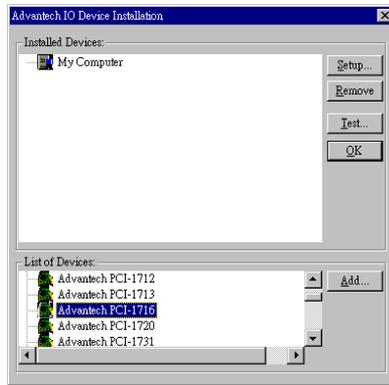

Figure 2-5: The I/O Device Installation dialog box
Step 2: On the *Device Installation* program window, select the Setup menu item on the menu bar, and click the *Device* command (Figure 2-4) to bring up the *I/O Device Installation* dialog box (Figure 2-5). You can then view the device(s) already installed on your system (if any) on the *Installed Devices* list box. Since you haven't installed any device yet, you might see a blank list such as the one on the next page (Figure 2-5).